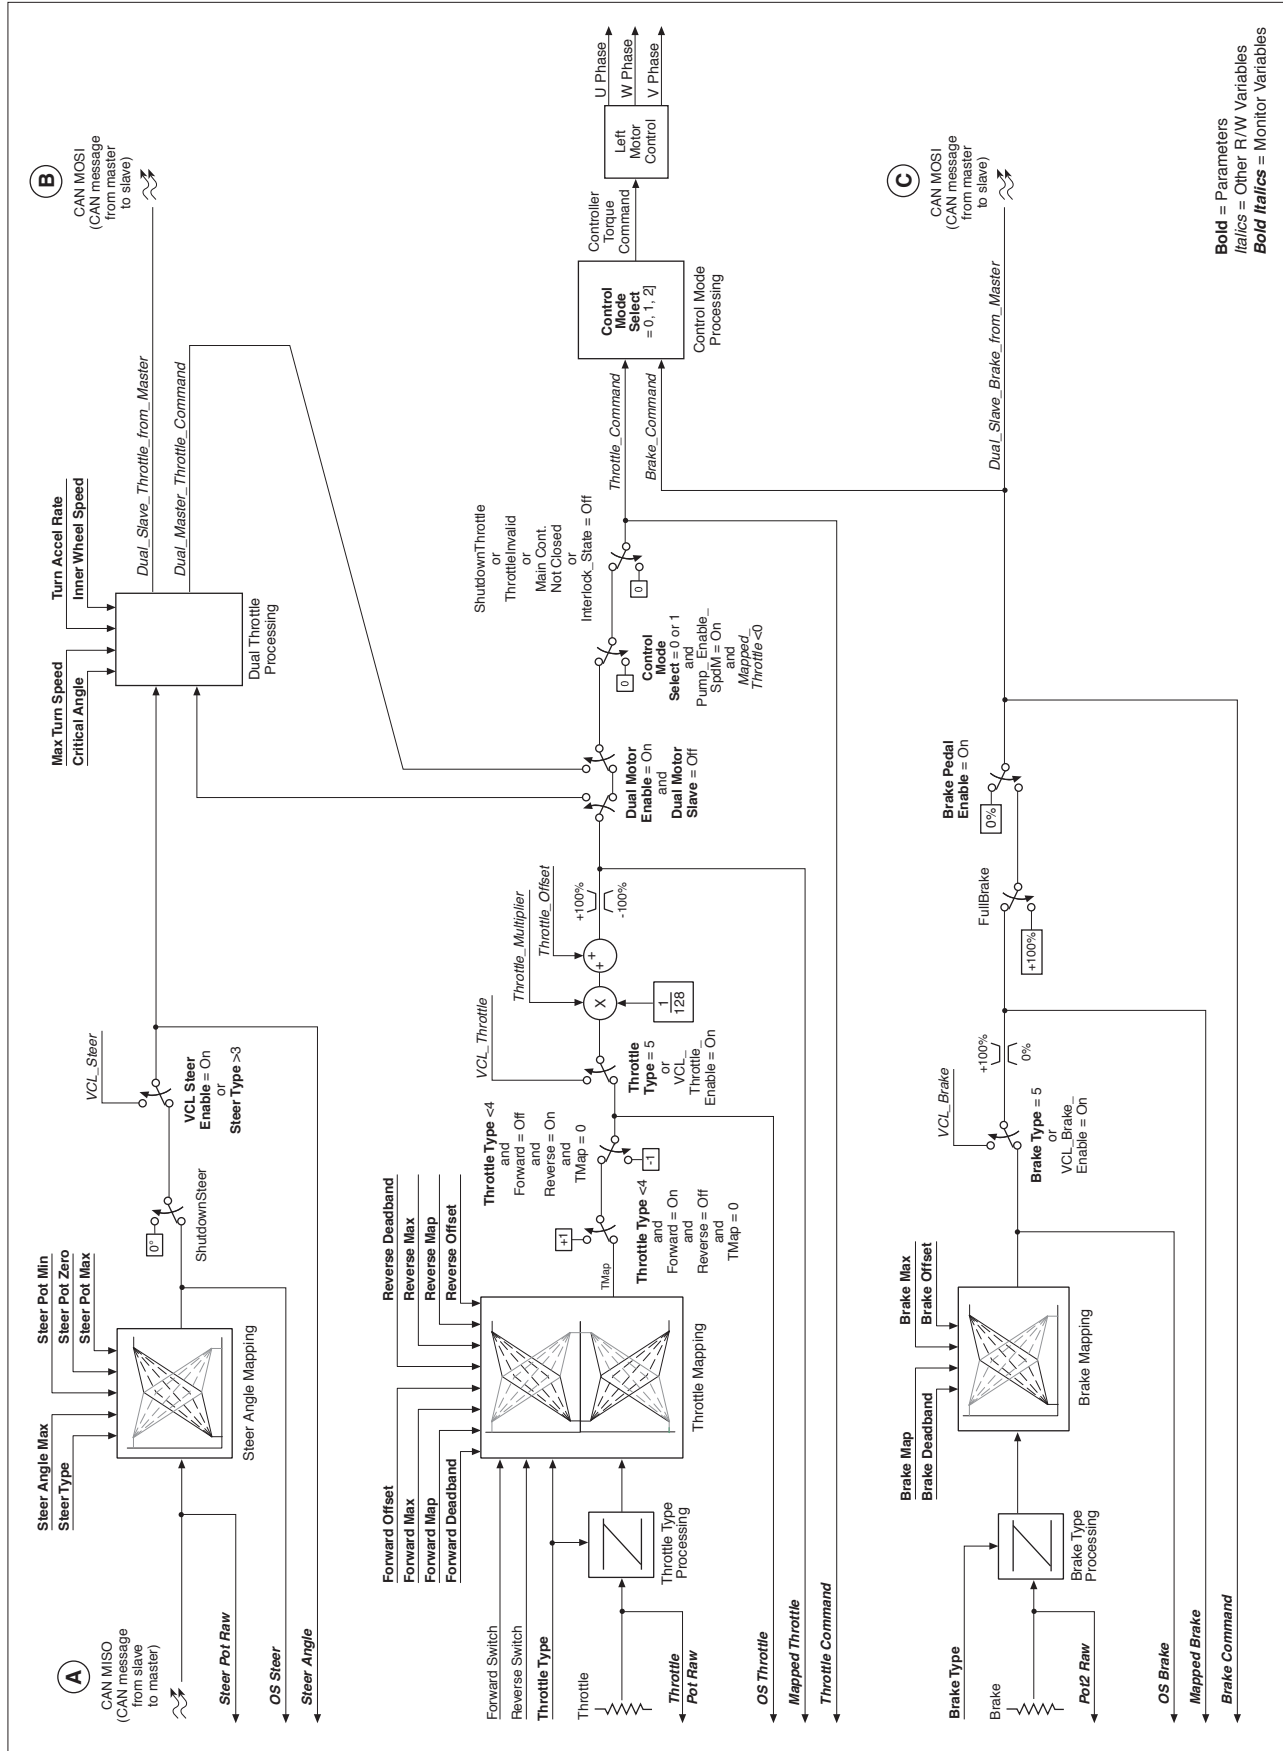
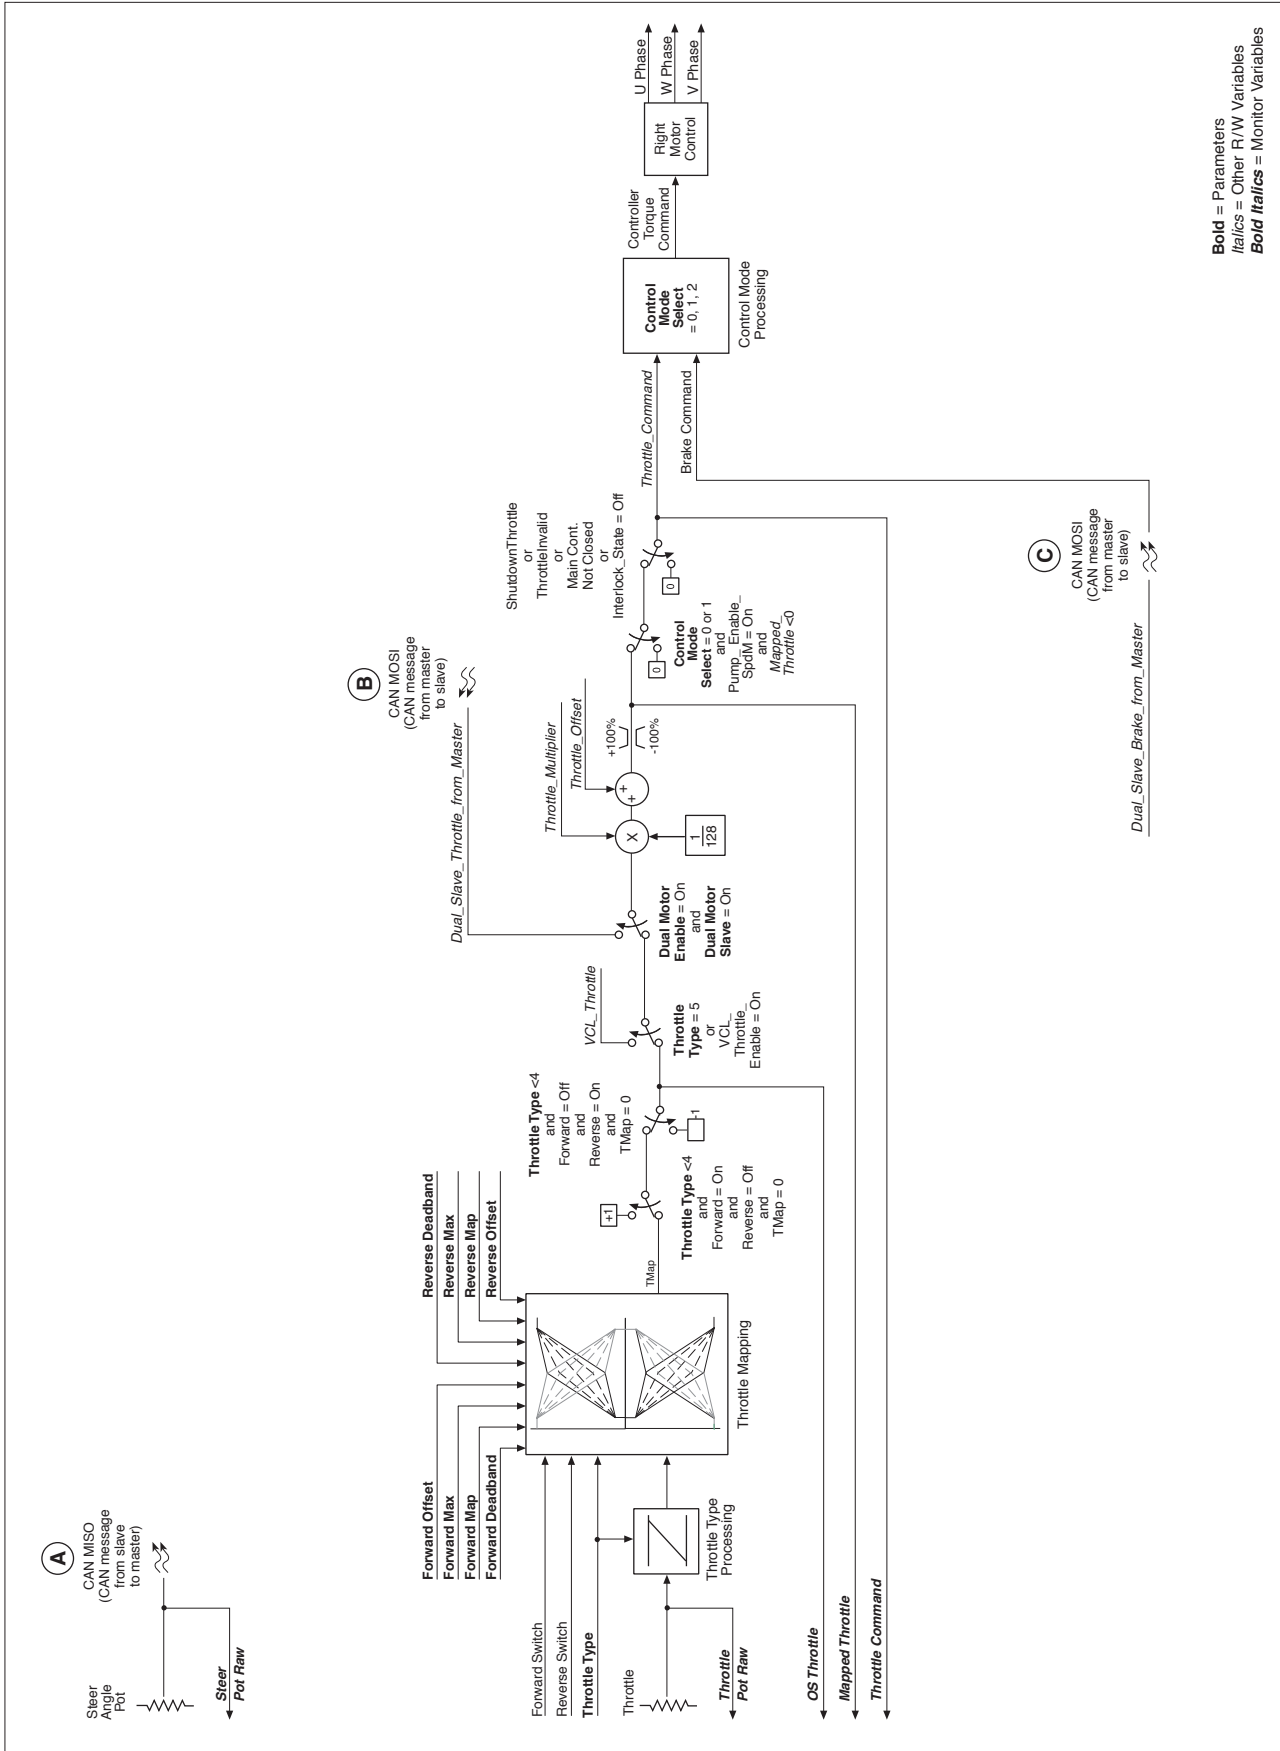

Fig. 7a Motor command diagram, master controller.
Fig. 7b Motor command diagram, slave controller.
The motor command diagrams for the Dual Drive controllers are shown in Figure 7a (for the master controller, which controls the Left traction motor) and Figure 7b (for the slave controller, which controls the Right traction motor).
Dual Drive operation is initiated by the steer pot, which is connected to the slave controller. The steer pot wiper voltage is sent in a CAN message to the master controller (Fig. 7a point Ⓐ) where the wiper voltage is converted to steer angle. The Steer_Angle and Mapped_Throttle are processed and produce a throttle value for the master traction controller and the slave traction controller (which is sent via a CAN message to the slave controller (Fig. 7b point Ⓑ)).
The throttle processing in the master controller is similar to the throttle processing in a non-dual-drive controller except for the additions of steer angle dual throttle processing and sending CAN messages to the slave controller for throttle and brake commands. The brake signal can be followed in the master from the brake pot input to the Brake_Command. The Dual_Slave_Brake_From_Master variable is sent from the master traction controller to the slave traction controller via a CAN message (Fig. 7a point Ⓑ to Fig. 7b point Ⓑ).
The throttle processing in the slave controller is different from the throttle processing in a non-dual drive controller because here the master controller is processing the throttle variables. The Dual_Slave_Throttle_From_Master (Fig. 7b point Ⓑ) and Dual_Slave_Brake_From_Master (Fig. 7b point Ⓒ) arrive from the master as shown. The Throttle Pot input on the slave is not used for throttle and may be programmed in VCL for other uses.
The CAN messages indicated by the ①, ②, and ③ points in Figures 7a and 7b are shown in the byte maps below, along with the additional variables that are available to Dual Drive applications.